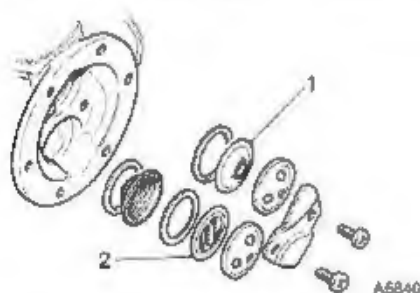

Fig 9. The valve assembly, type AUF300/AZX1300 pump.
- 17 In this range of pumps the valve assemblies are retained internally in the body by a clamp plate secured with self-tapping screws (see Fig. 9). The Inlet valve recess in the body is deeper than the outlet recess to allow for the filter and the extra washer.